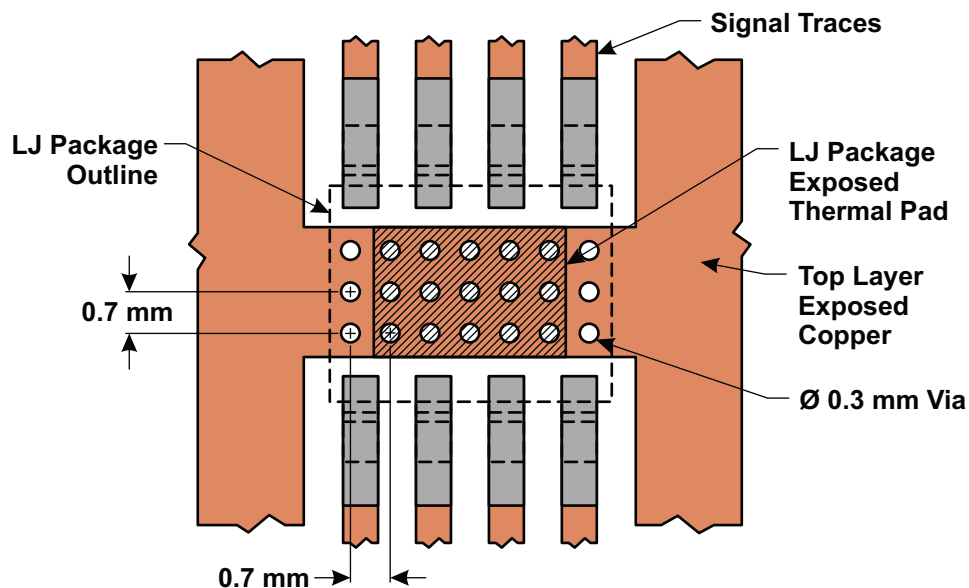

Figure 13: Suggested PCB Layout for Thermal Optimization
- The greater the quantity of thermal vias, the better the dissipation. If the expense of vias is a concern, studies have shown that concentrating the vias directly under the device in a tight pattern, as shown in Figure 13, has the greatest effect.